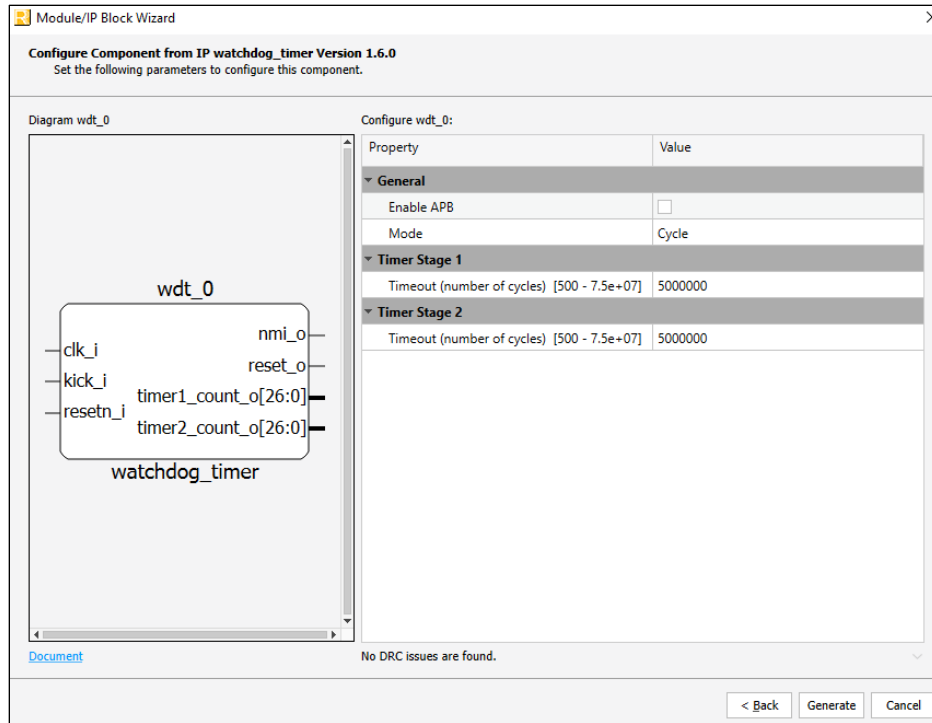

Figure 7.2. IP Configuration
3. In the next **Module/IP Block Wizard** window, customize the selected Watchdog Timer IP using drop-down menus and check boxes. Figure 7.2 shows an example configuration of the Watchdog Timer IP. For details on the configuration options, refer to the IP Parameter Description section.